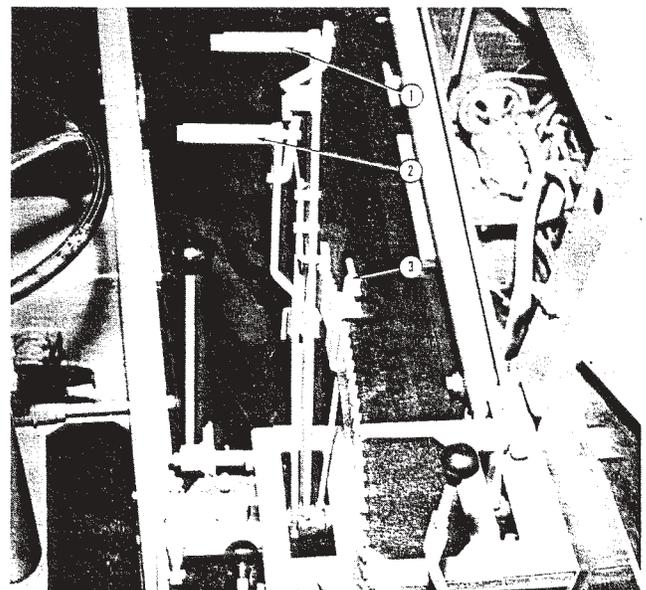

Figure 5
5. Set mechanical hopper gate opener to achieve desired application rate using the following steps. (Figure 5).